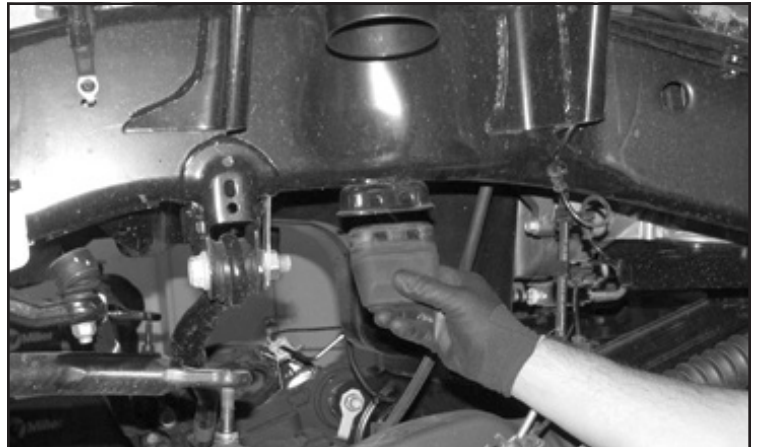

FIGURE 15 - STEP 15
15. Remove the factory bump stop and discard. **SEE FIGURE 15**
SEE FIGURE 15